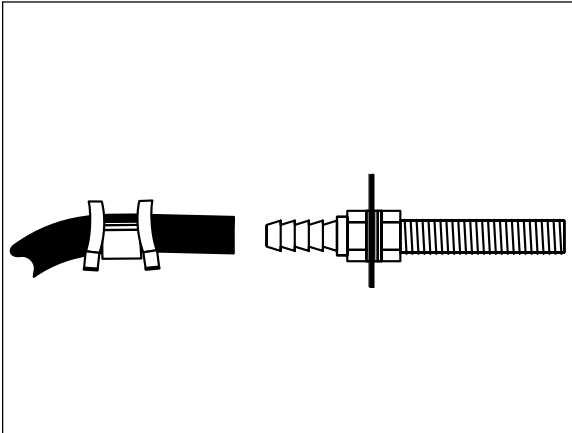

Figure 5
13. Slide air line clamp over the air line. Push air line onto fitting covering all barbs, with pliers slide the air line clamp forward until it fully covers the barbed section (Figure 5).